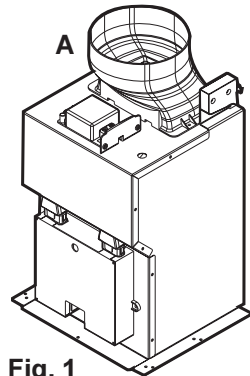

Fig. 1
- In this version fumes are extracted to the outside via a hose connected to the coupling ring **A**. **Fig. 1**.